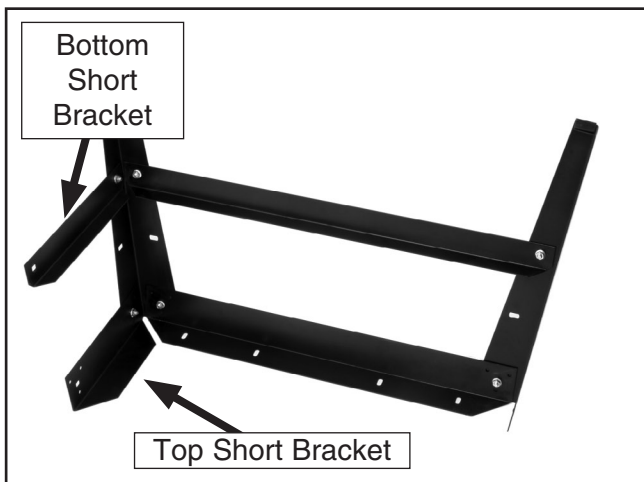

Figure 6. Top and bottom short brackets secured to a stand leg assembly.
3. Mount a top and bottom short bracket to the left and right sides of the stand leg assembly completed in **Step 2** as shown in **Figure 6**. Secure with two M8-1.25 x 15 carriage bolts and serrated flange nuts.